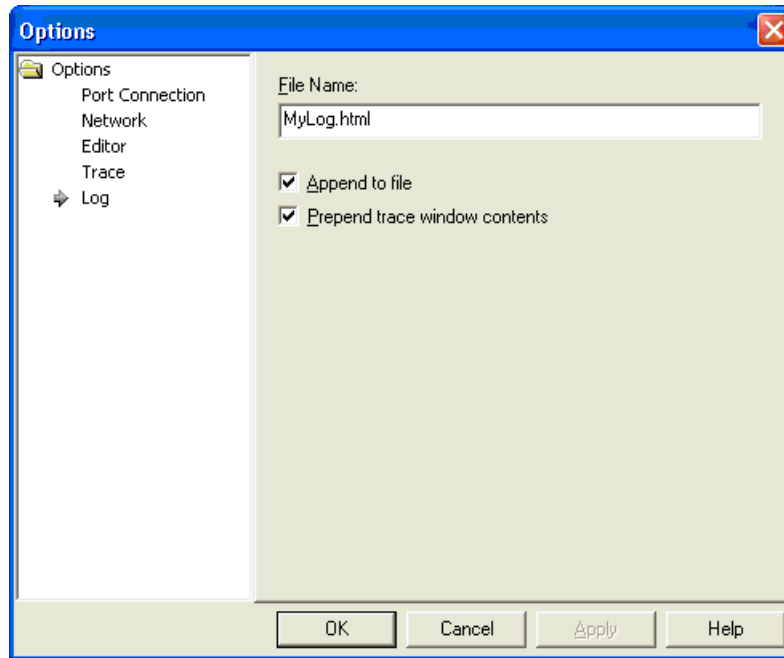

Figure 28. Log File Configuration Options
- **Automatic Save to File:** Select the Log option in the Options dialog box (for information on log file configuration options, see Figure 28).
The log file option automatically saves the trace window contents while a script is running. Figure 28 shows the log file configuration options.